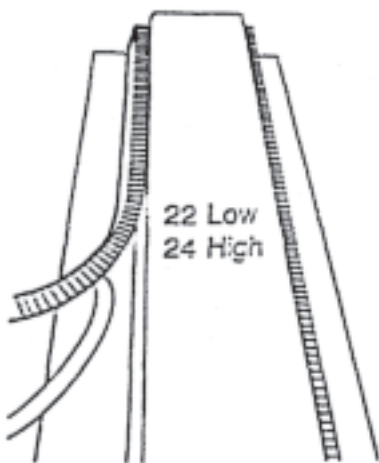

Fig 26
- 5h Attach the Panel Retainers (22) & (24/24a) to the Centre Posts using Nuts/Bolts (37) & (39). The bolts go through the Centre Post into the Panel Retainer, as shown in Figure 26.